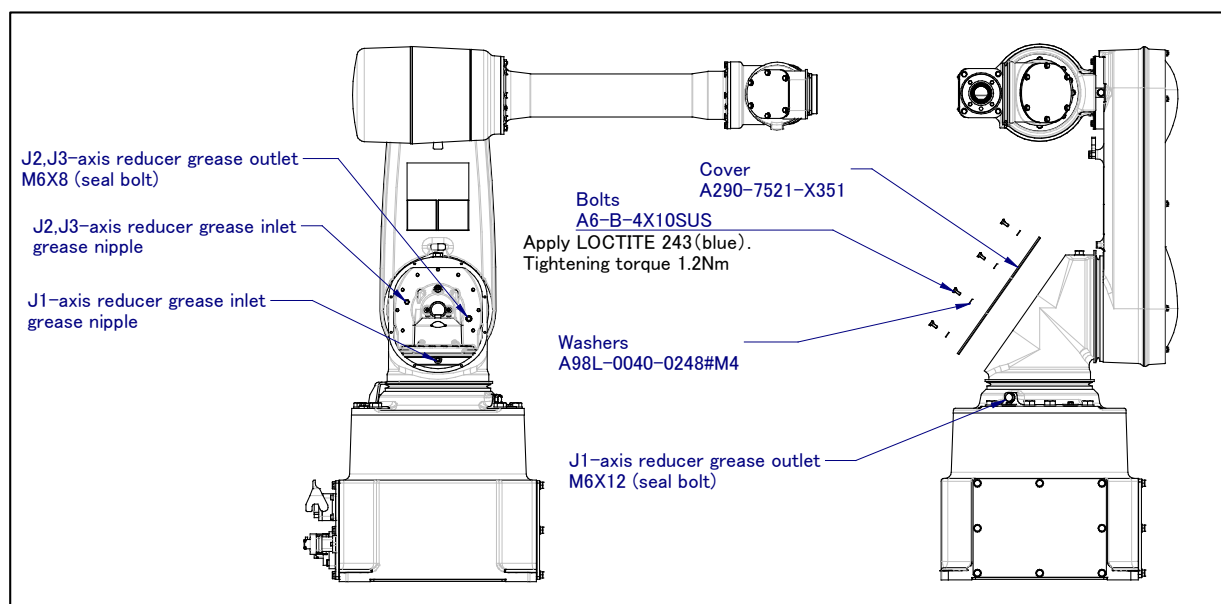

Fig. 7.3.3 (a) Greasing to the reducer
- 3 Remove the seal bolt of grease outlet. (Fig. 7.3.3 (a))